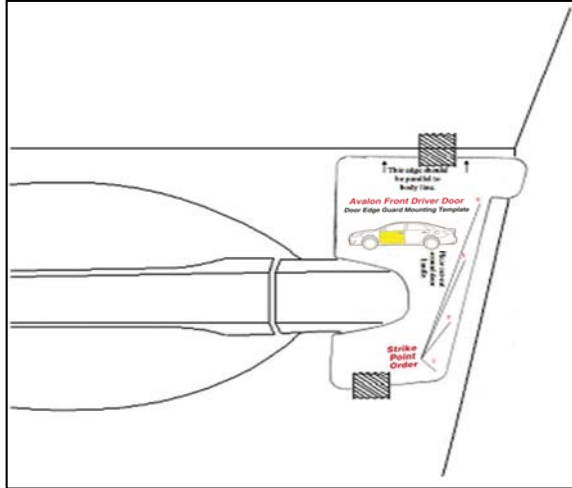

Fig. 2-3
- (1) Select the front door template and fit the notch around the door handle. Adjust it as needed to ensure it is parallel to the body line directly above the template. If needed, tape it into place using painter's masking tape (Fig 2-3).